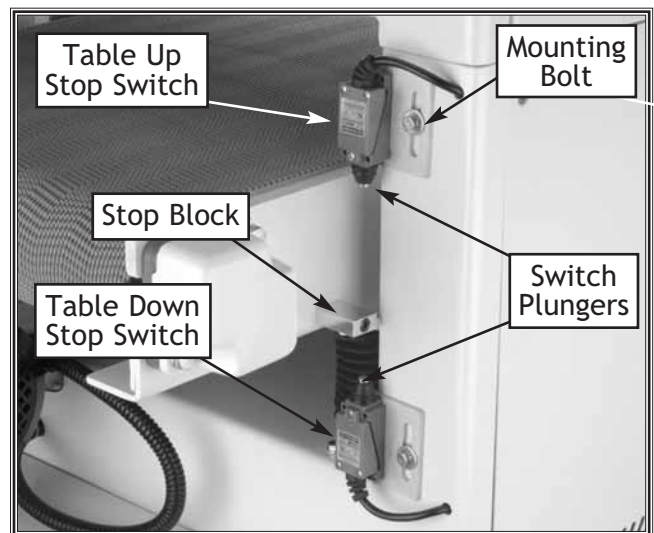

Figure 23. Table stop switch adjustment locations.
3. Loosen the mounting bolt for the table-down stop switch and move the switch so the switch plunger depresses against the stop block and you hear the switch click. See **Figure 23**.
6. Loosen the mounting bolt for the table-up stop switch and move the switch so the switch plunger depresses against the stop block and you hear the switch click. See **Figure 23**.